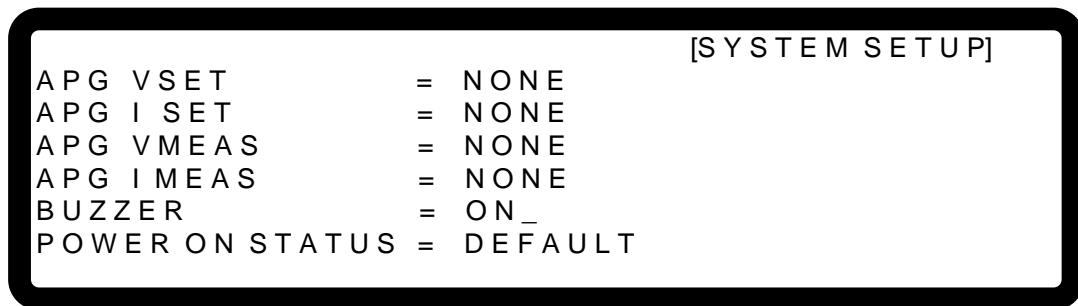

Figure 3-12
1. Use the “” keys to move the cursor to the column to be set as shown in Figure 3-12.